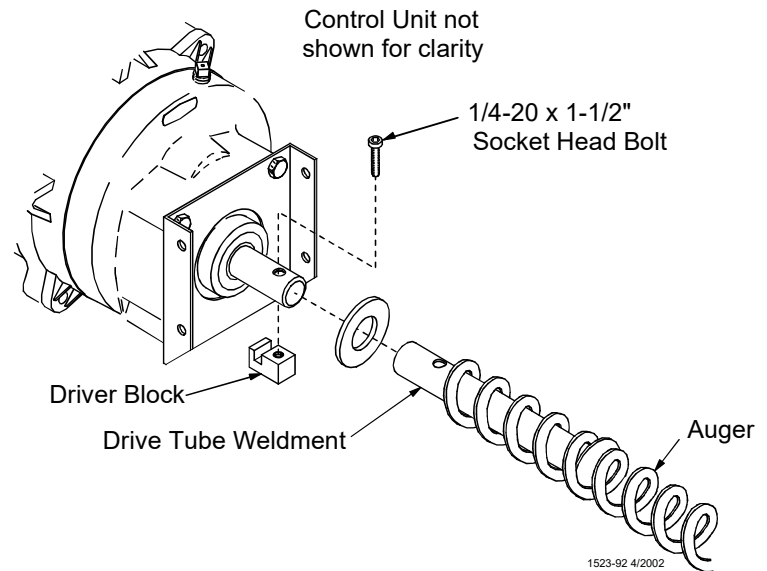

Figure 36. Auger Driver Components
7. Slide the Drive Tube and flat washer over the output shaft on the Power Unit, as shown in **Figure 36**.